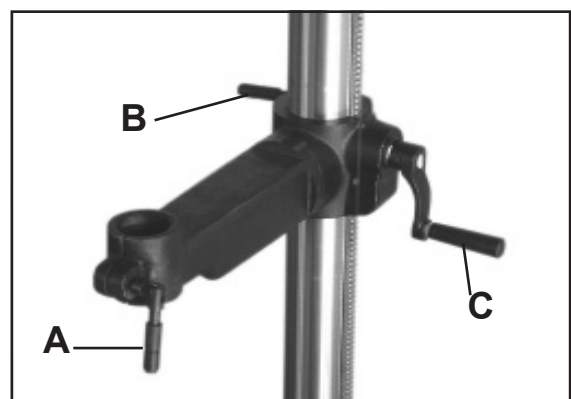

Figure 16
3. Tighten the locking lever (A-Fig.16) onto the table support bracket (B-Fig.16) and install the table raising/lowering handle (C-Fig.16).